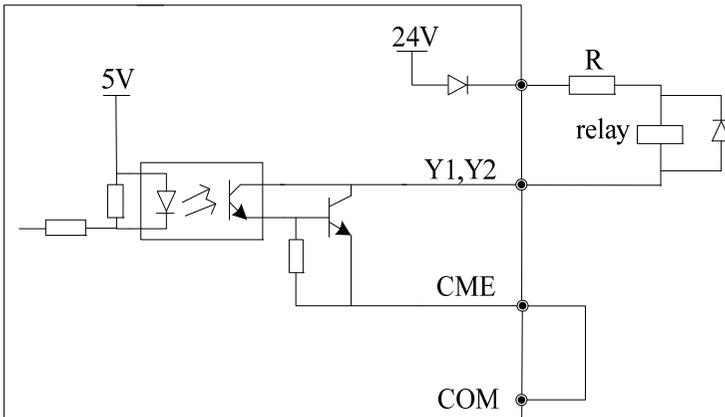

Fig. 2-30 Wiring method 1 of multi-function output terminal
5) Multi-function output terminals Y1 and Y2 can use the internal 24V power supply of inverter and the wiring method is shown in Figure 2-30.